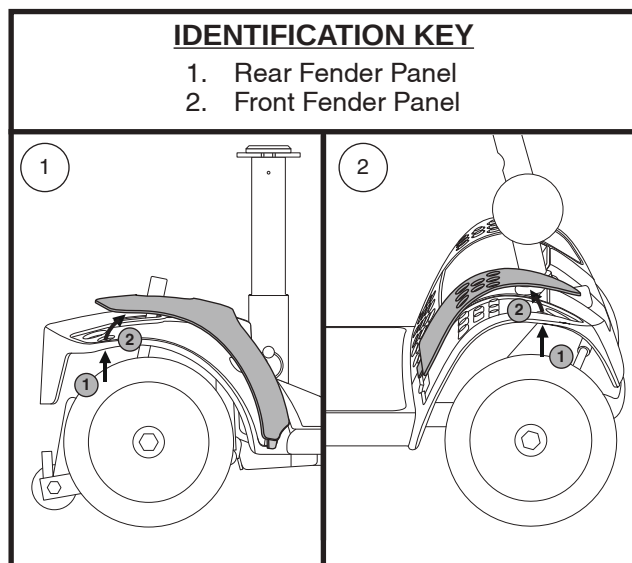

Figure 17. Fender Panels
2. Push through the hole to separate the piece from the Travel Scooter. See **figure 17**.